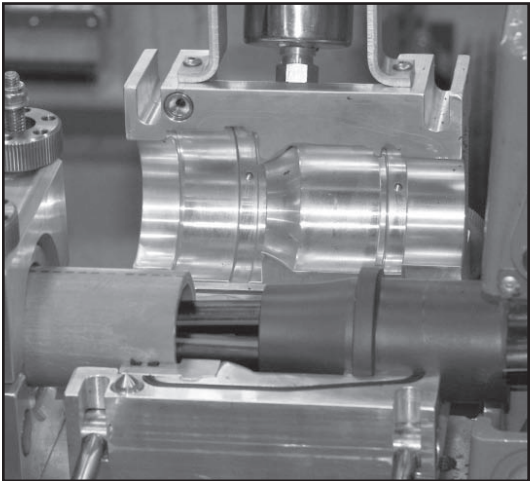

Figure 33
H. Rotate Venturi for best duct lay in the tracks for the number of Micro Duct being installed. (Figure 33)